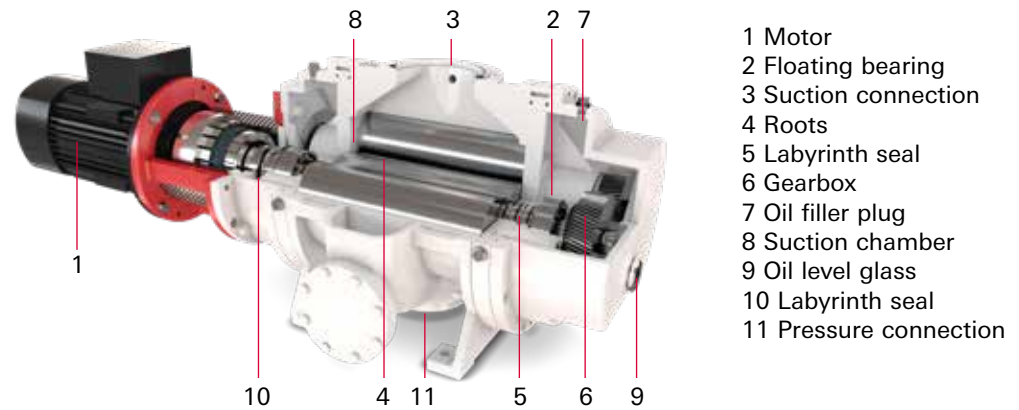

Figure 2: Schematic design of a Roots vacuum pump
Figure 2 shows the schematic structure of Roots pumps. Inside them, two Roots (4) rotate in opposite directions. They move the gas in the housing from the suction port (3) to the pressure port (11).